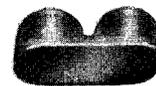

Fig. 3—KS-19478 L1 Guard
4.03 KS-19478 L1 Guard: In order to prevent interference with special circuits, the KS-19478 L1 guard (Fig. 3) is used to cover two test terminals (tip and ring) on the test terminal field of the 302-type connector.